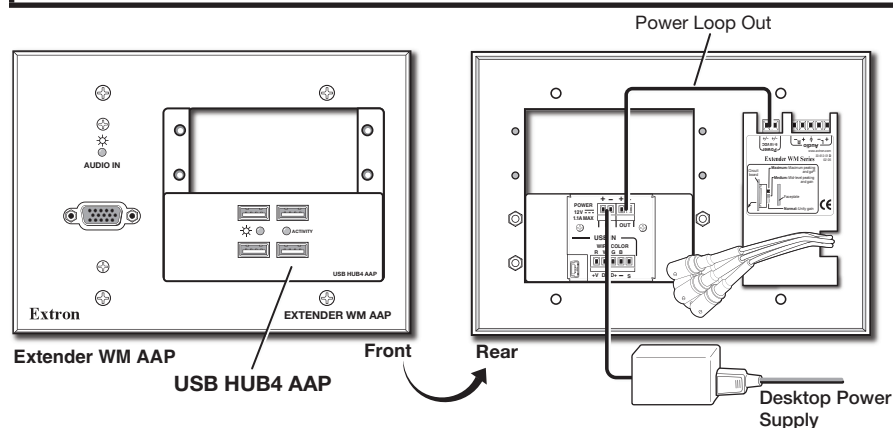

Figure 6. Providing Power to an External Device via the USB HUB4
Figure 6 shows the HUB4 connected to a WM Series Extender, which is mounted in the wallplate next to the HUB4.
- A USB hub ports** — Connect up to four USB peripheral devices (for example, a keyboard, mouse, or web cam) to these female USB A ports. Each USB port provides 100 mA of power when the HUB4 is powered via the host computer or 500 mA when it is powered by an Extron PS 1215 1.5 A, 12 VDC external power supply (see figure 6 on page 8).